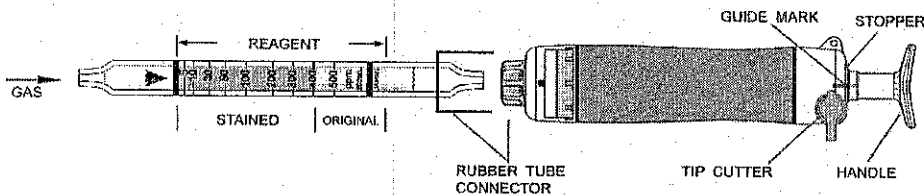

Fig.1
- ② Insert the detector tube into the aspirating pump securely as shown in Fig.1. (Arrow mark shall point to the pump.)
- ③ Align the guide marks on the shaft and stopper of the aspirating pump.
- ④ Pull the pump handle at a full stroke until it locks and wait for 1.5 minutes or until the completion of sampling is confirmed with the flow indicator of the pump. (See descriptions about the flow indicator in the instruction manual of the pump.)
- ⑤ Push back the handle without removing the detector tube from the rubber tube connector so that air in the pump will be discharged perfectly. Then repeat the step ③~④ once more.
- ⑥ On completion of sampling, read the scale at the maximum point of the stained layer.